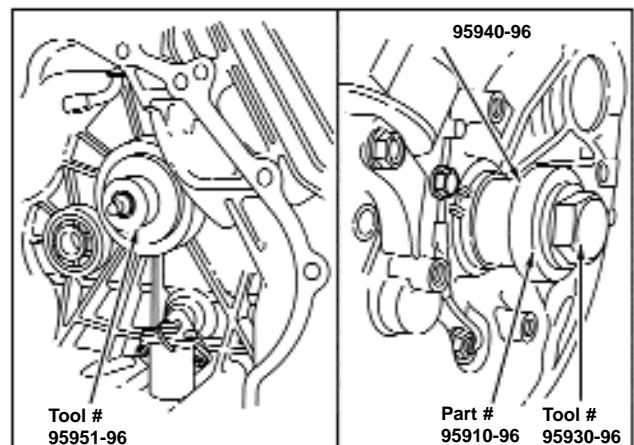

Figure 133 - Removing Bearing - Mag. Side
4. Insert screw with driver through ball bearing and thread into support. Continue tightening screw until ball bearing is removed, Figure 133.